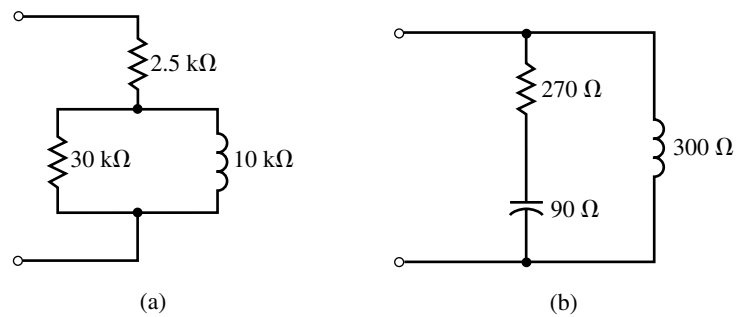

FIGURE 18–119
55. Convert each each of the networks of Figure 18–119 into an equivalent series network consisting of two elements.
56. Convert each each of the networks of Figure 18–119 into an equivalent parallel network consisting of two elements.